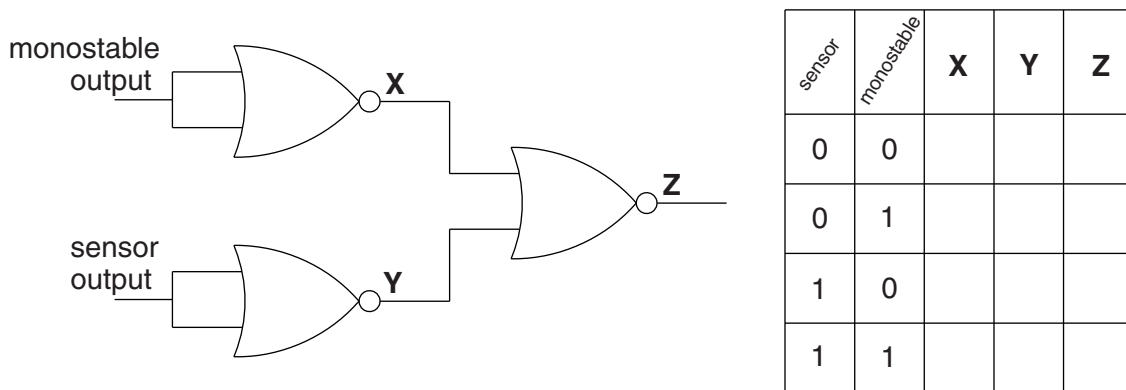
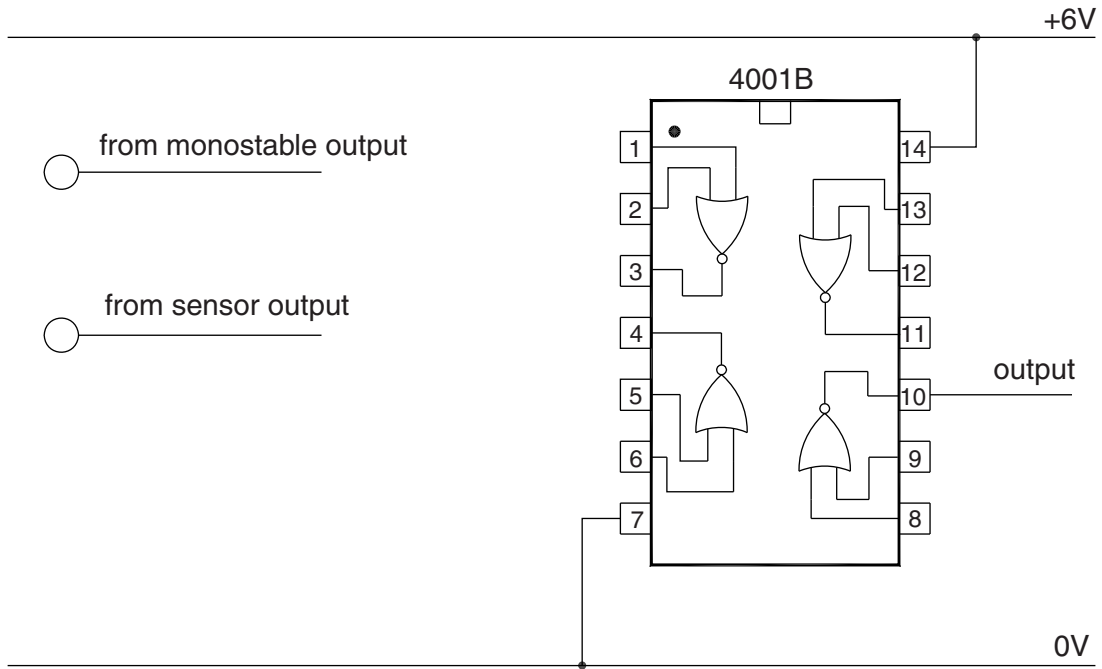

Fig. 16
Fig. 18
- (i) Complete the truth table for the circuit shown in Fig. 16.
- (b) (i) The logic circuit in Fig. 16 will use a quad 2 input NOR gate. Complete Fig. 18 to show connections to the logic IC.
- (ii) For reliable operation logic ICs should have the unused inputs connected to either the positive or the 0V rail. Add these connections to Fig. 18 on the logic gate that has not been used.